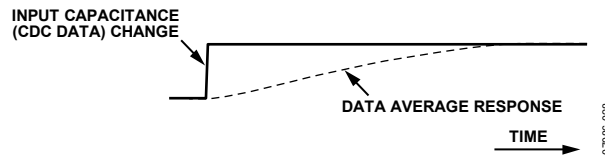

Figure 39. Data Average Response to Data Step Change
| 3 2 1 0 | ThrSettling | <p>Determines the settling time constant of the data average and thus the settling time of the adaptive thresholds.</p> <p>The response of the average to an input capacitance step change (that is, response to the change in the CDC output data) is an exponential settling curve characterized by the following equation:</p> $Average(N) = Average(0) + Change(1 - e^{-N/TimeConst})$ <p>where: Average(N) is the value of average N complete CDC conversion cycles after a step change on the input Average(0) is the value before the step change TimeConst can be selected in the range between 2 and 65,536 conversion cycle multiples, in steps of power of 2, by programming the ThrSettling bits.</p> $TimeConst = 2^{(ThrSettling + 1)}$ <p>See Figure 39.</p> | | | | | | | | | | | | | | | | | | | | |